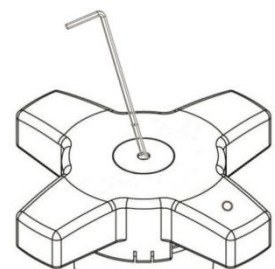

Figure 3
4. Using an hex key, tighten the inner valve stem clockwise to lock the maximum opening (see Figure 3).